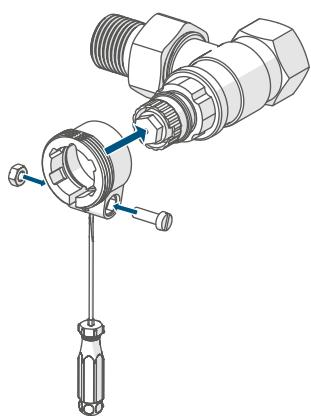

Figure 7
- i** When using the spacer (J), fasten the smaller adhesive strip at the back side of the spacer (see figure 7) and attach it to the desired position on the wall. Afterwards, place the magnet contact on to the spacer.